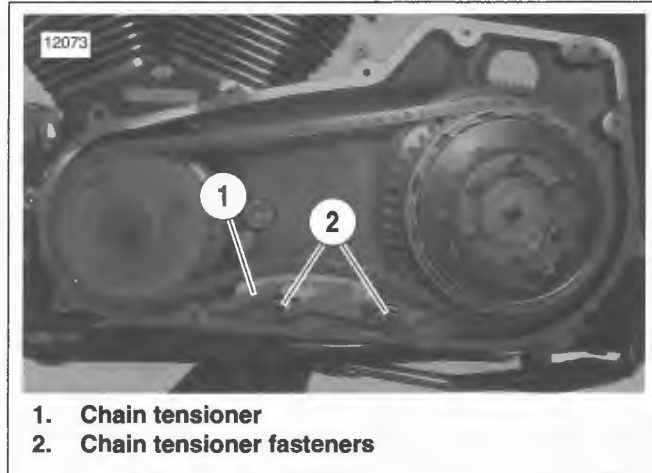

Figure 6-12. Chain Tensioner
2. See Figure 6-12. Remove chain tensioner fasteners (2) then remove chain tensioner (1).
- See Figure 6-12. Install primary chain tensioner (1) into place. Install chain tensioner fasteners (2) and tighten to 21-24 ft-lbs (28.5-32.5 Nm). Remove cable tie.